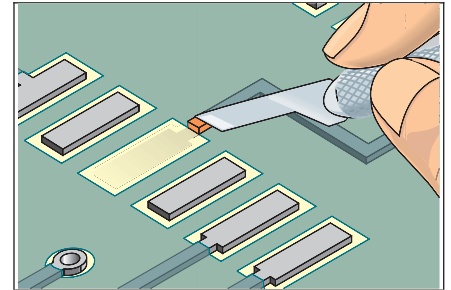

Figure 1 Remove the defective surface mount pad and soldermask.
2. Remove the defective pad and a short length of the connecting circuit. (See Figure 1.)